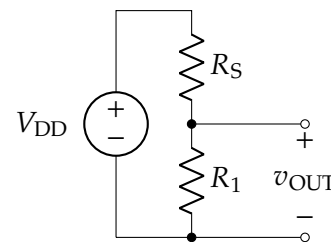

Figure 12.1: Voltage divider circuit for measuring a resistive sensor. R_S is the sensor resistance.
One of the easiest ways to measure a resistive sensor is to leverage the resistor voltage divider. A divider can be made with one known resistor and the sensor, as seen in figure 12.1.
To use the temperature sensor in a circuit, we build a voltage divider with the temperature sensor. Using the circuit in figure 12.1 with $R_1 = 15\text{ k}\Omega$ and $V_{\text{DD}} = 5\text{ V}$, we can solve for temperature in terms of v_{OUT} .
3. Calculate the R_1 necessary for the circuit in figure 12.1 to have $v_{OUT} = 2.5\text{ V}$ at 25°C using the same thermistor used in example 12.2.1.
1. *Construct* the circuit in figure 12.1 using the NTC as R_S , a $15\text{ k}\Omega$ resistor as R_1 , and a V_{DD} of 5 V .